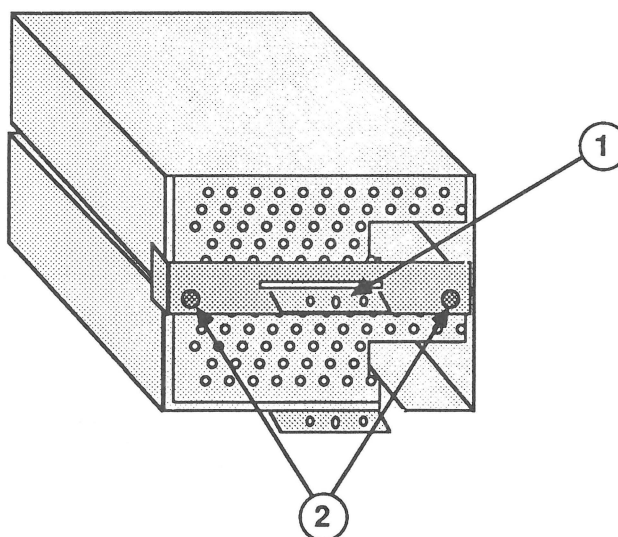

FIGURE 33
3. Place the metal bracket over the two drive housings so that the slot in the bracket (Figure 33, #1) fits over the tab on the upper housing.
4. Replace the two Phillips screws (Figure 33, #2) that secure the metal bracket to the lower internal drive housing.